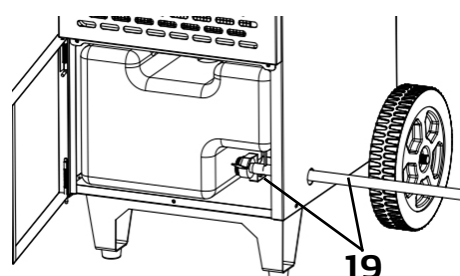

Fig. 10
- Thread the supplied drain hose (19) through the hole in the side of the housing and push it onto the drain outlet (fig. 10).